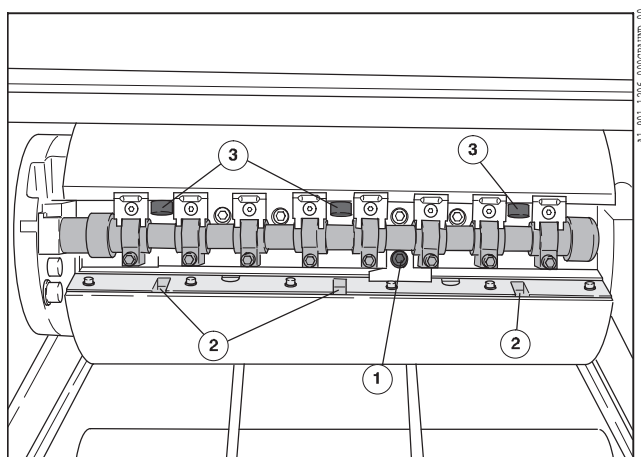

Fig. 38 Changing the cylinder jacket
3. Release tension in the rear plate clamp with the operator tool by turning the red clamp bolt (Fig. 38/1) counterclockwise; in doing so, firmly hold the jacket rear edge. The jacket rear edge springs out of the plate clamp.
5. Set the operator tool at the recesses (Fig. 38/2) of the rear plate clamp and at the lower edge of the gripper operating shaft. The front clamp bolts (Fig. 38/3) are now accessible.
6. Loosen the 3 clamp bolts (Fig. 38/3) at the front plate clamp (approx. 2 revolutions).